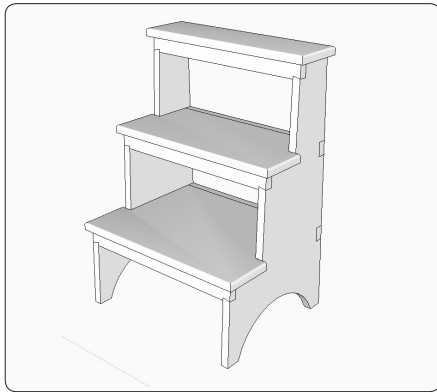

Figure 1. Shaker step stool.
- A Shaker step stool shows how to handle angled components and joints (Figure 1).